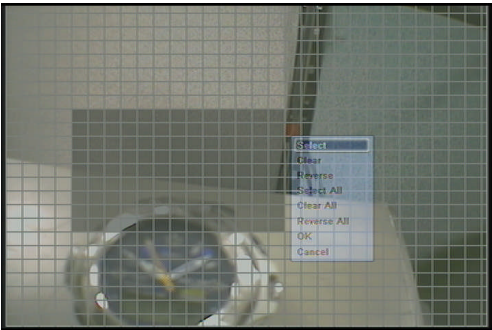

Figure 63
ITEM 4	Mask Zone Is used to specify a zone for motion to be detected for each channel. The area that you specify will be the area where motion will be detected (Please refer to Figure 63 on the next page).
**Pop-Up Menu: (refer to figure 63)**